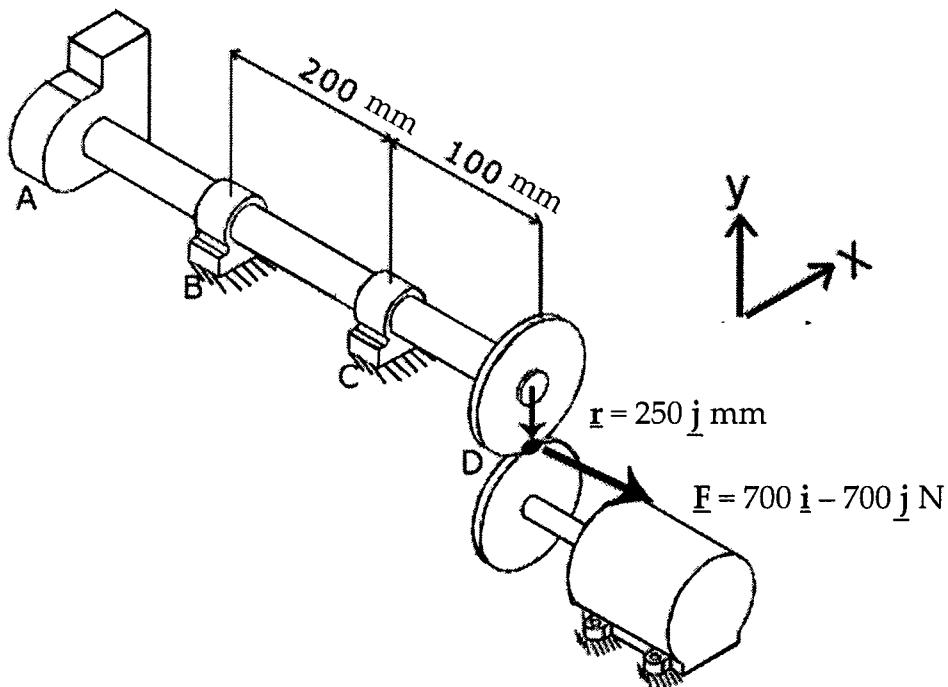

Figure Q5
- Q5. A gear driven pump is shown in Figure Q5. The pump impeller is represented as A and supported by deep groove ball bearings at B and C. The gear is transmitting power from the motor to the shaft of the pump. Assuming that the force from the contact at the gear teeth can be represented by the following force vector :